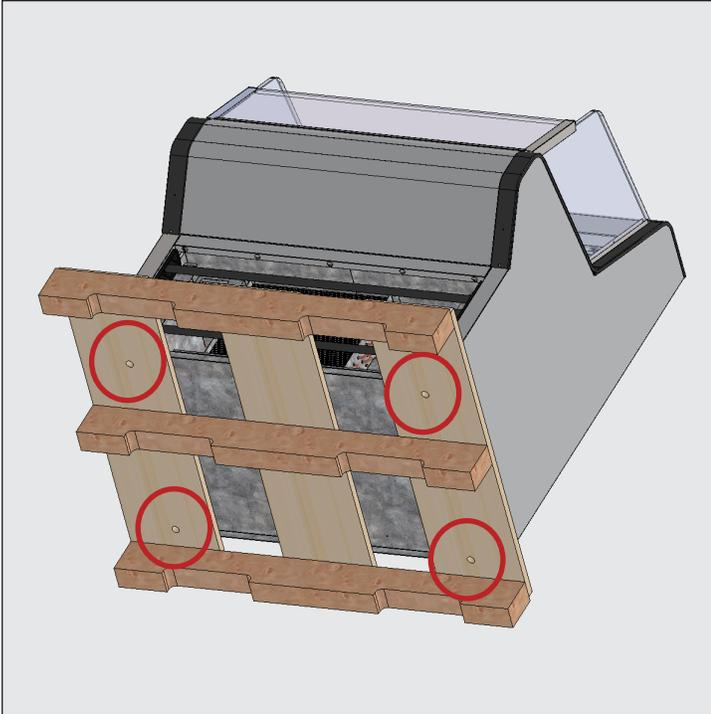

Fig. 2. Shipping bolt locations.
2. With an adjustable wrench, remove all shipping bolts securing the wood skid to the bottom of the appliance. See fig. 2.